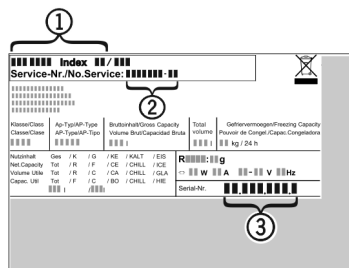

Fig. 17
- ▶ Read the appliance designation Fig. 17 (1), service No. Fig. 17 (2) and serial No. Fig. 17 (3) off the model plate located inside the appliance on the left-hand side.
- ▶ Notify the customer service, specifying the fault, appliance designation Fig. 17 (1), service No. Fig. 17 (2) and serial No. Fig. 17 (3).